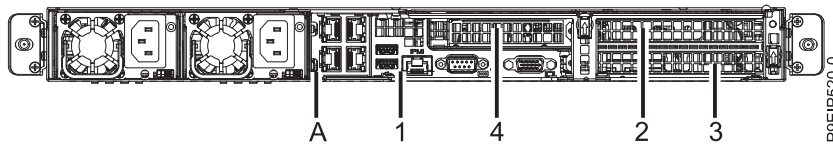

Figure 32. 9006-12C PCIe adapter positions
2. An adapter can share a PCIe riser card with other adapters. Label and remove any cables and plugs that extend out of the adapters. See Figure 32.